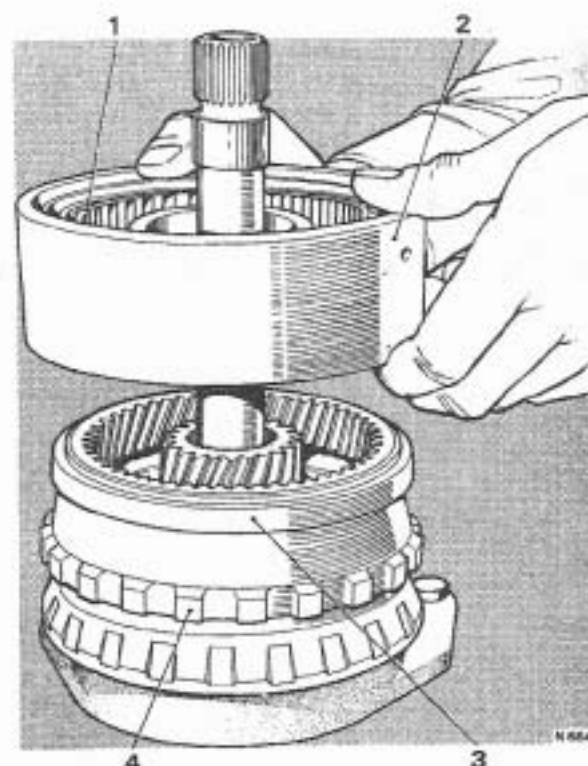

FIG. T263 REMOVING THE REACTION CARRIER AND REAR SPRAG ASSEMBLY
23. Remove the reaction carrier and roller clutch assembly from the output carrier (see Fig. T263); remove the roller clutch assembly from the reaction carrier.